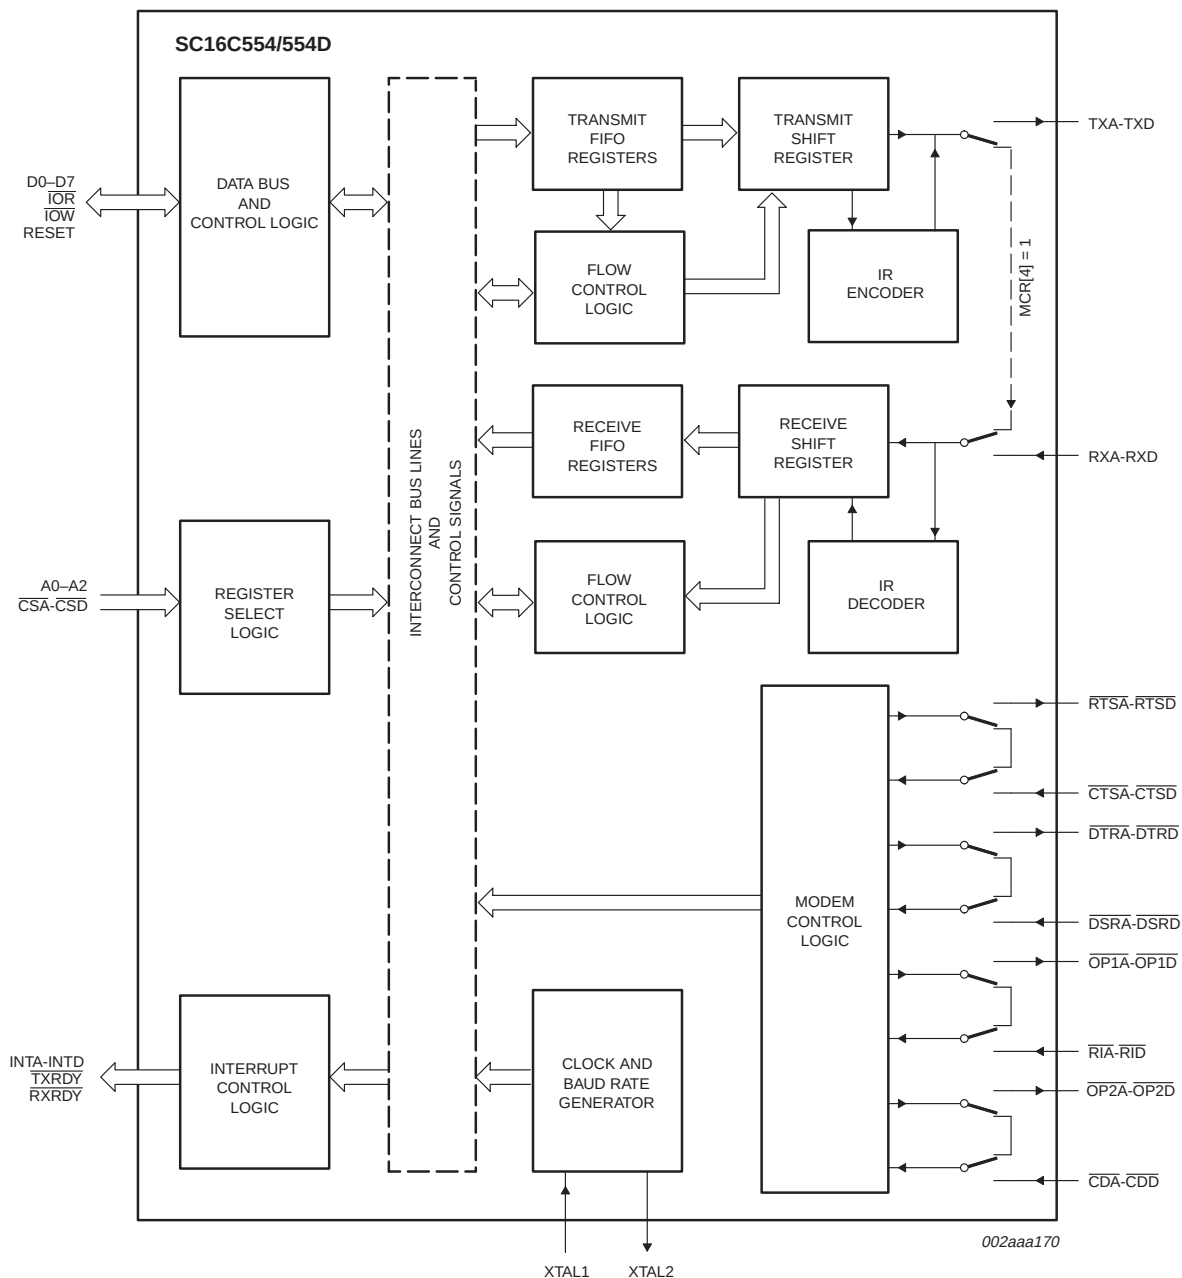

Fig 8. Internal loop-back mode diagram (16 mode).
The internal loop-back capability allows on-board diagnostics. In the loop-back mode, the normal modem interface pins are disconnected and reconfigured for loop-back internally. MCR[0-3] register bits are used for controlling loop-back diagnostic testing. In the loop-back mode, $\overline{OP1}$ and $\overline{OP2}$ in the MCR register (bits 2-3) control the modem $\overline{RI}$ and $\overline{CD}$ inputs, respectively. MCR signals $\overline{DTR}$ and $\overline{RTS}$ (bits 0-1) are used to control the modem $\overline{DSR}$ and $\overline{CTS}$ inputs, respectively. The transmitter output (TX) and the receiver input (RX) are disconnected from their associated interface pins, and instead are connected together internally (see Figure 8). The $\overline{CTS}$, $\overline{DSR}$, $\overline{CD}$, and $\overline{RI}$ are disconnected from their normal modem control input pins, and instead are connected internally to $\overline{RTS}$, $\overline{DTR}$, $\overline{OP2}$ and $\overline{OP1}$. Loop-back test data is entered into the transmit holding register via the user data bus interface, D0-D7. The transmit UART serializes the data and passes the serial data to the receive UART via the internal loop-back connection. The receive UART converts the serial data back into parallel data that is then made available at the user data interface D0-D7. The user optionally compares the received data to the initial transmitted data for verifying error-free operation of the UART TX/RX circuits.